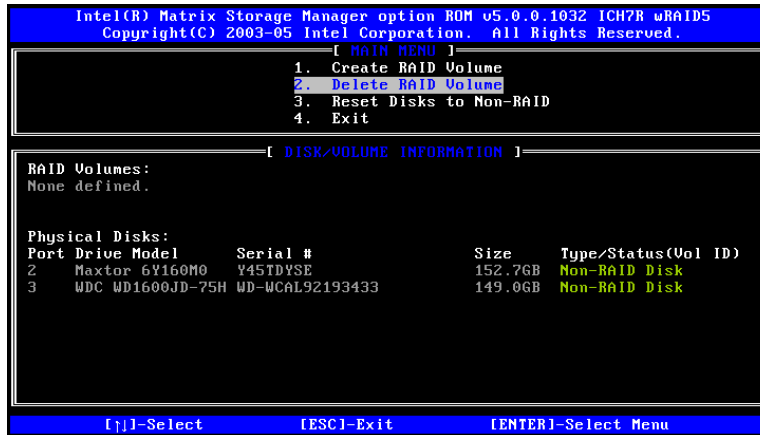

Figure F-11: Non-RAID Disks
Step 4: Non-RAID Disks. After deleting the RAID volume, the disks belonging to the volume will be shown as non-RAID disks. See **Figure F-11**.